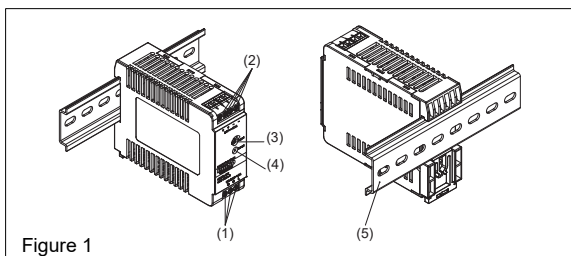
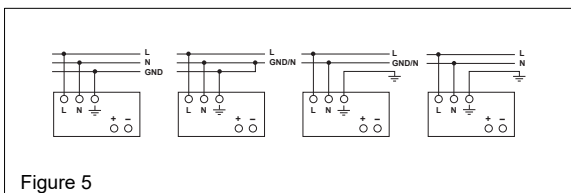

Figure 1
Figure 5
### 5.1. Input connection (Fig. 1, Fig. 5)
Use L, N and GND connections of input terminal connector (see Fig. 1 (1)) to establish the 100-240 VAC connection. Typical connection methods are shown in Figure 5.
### 5.2. Output connection (Fig. 1 (2))
Use the "+" and "-" screw connections to establish the 24VDC connection. The output provides 24VDC. The output voltage can be adjusted from 24 to 28 VDC on the potentiometer. The green LED DC OK displays correct function of the output (Fig. 1 (4)). The device has a short circuit and overload protection and an overvoltage protection limited to 30-34.8 VDC.